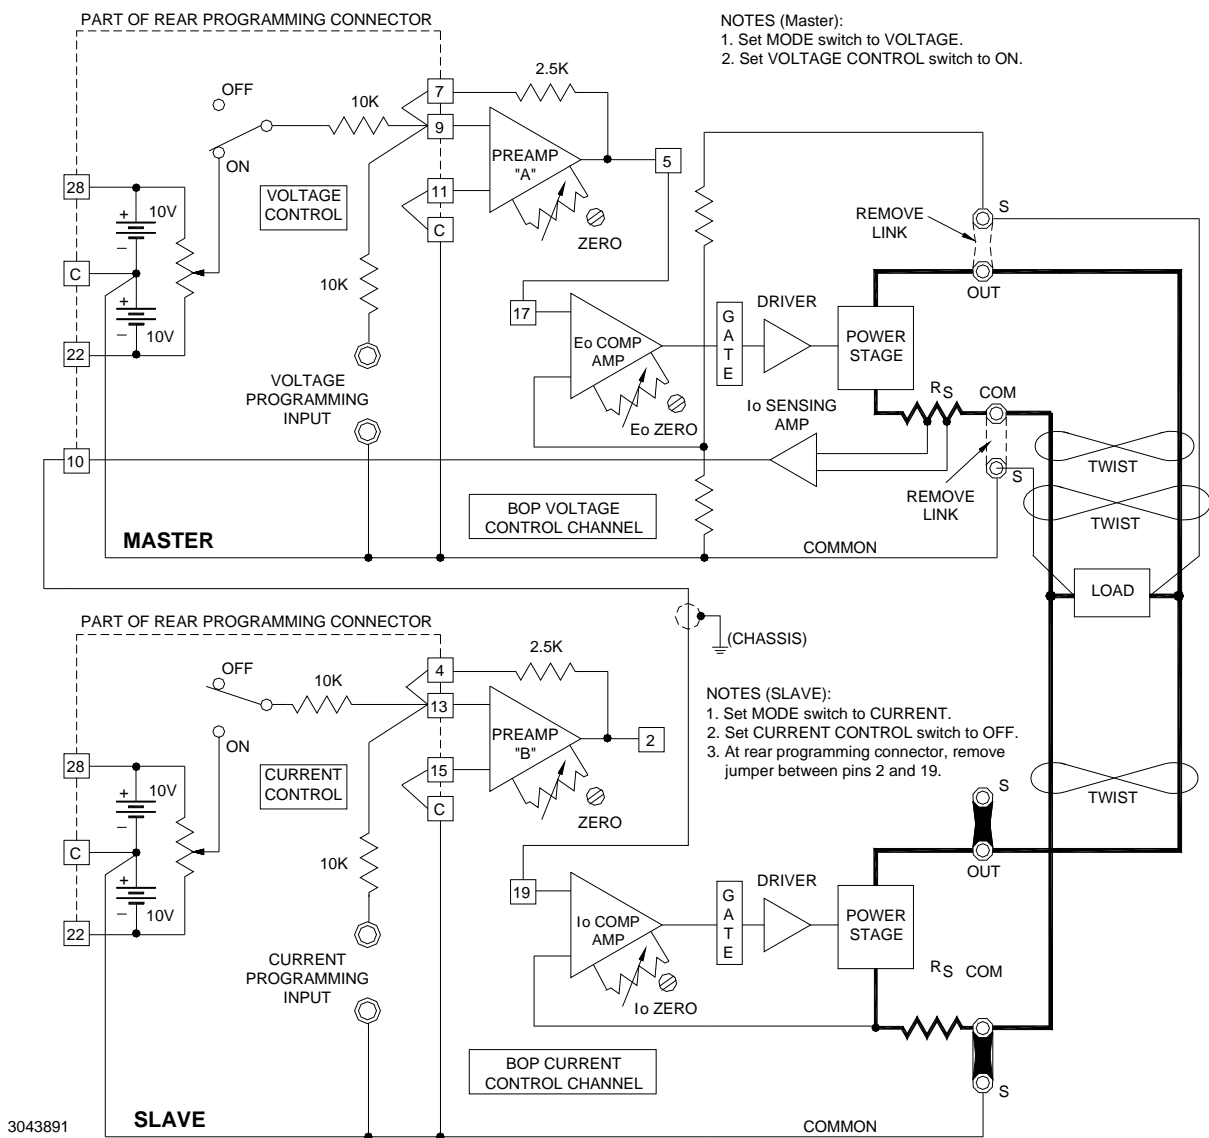
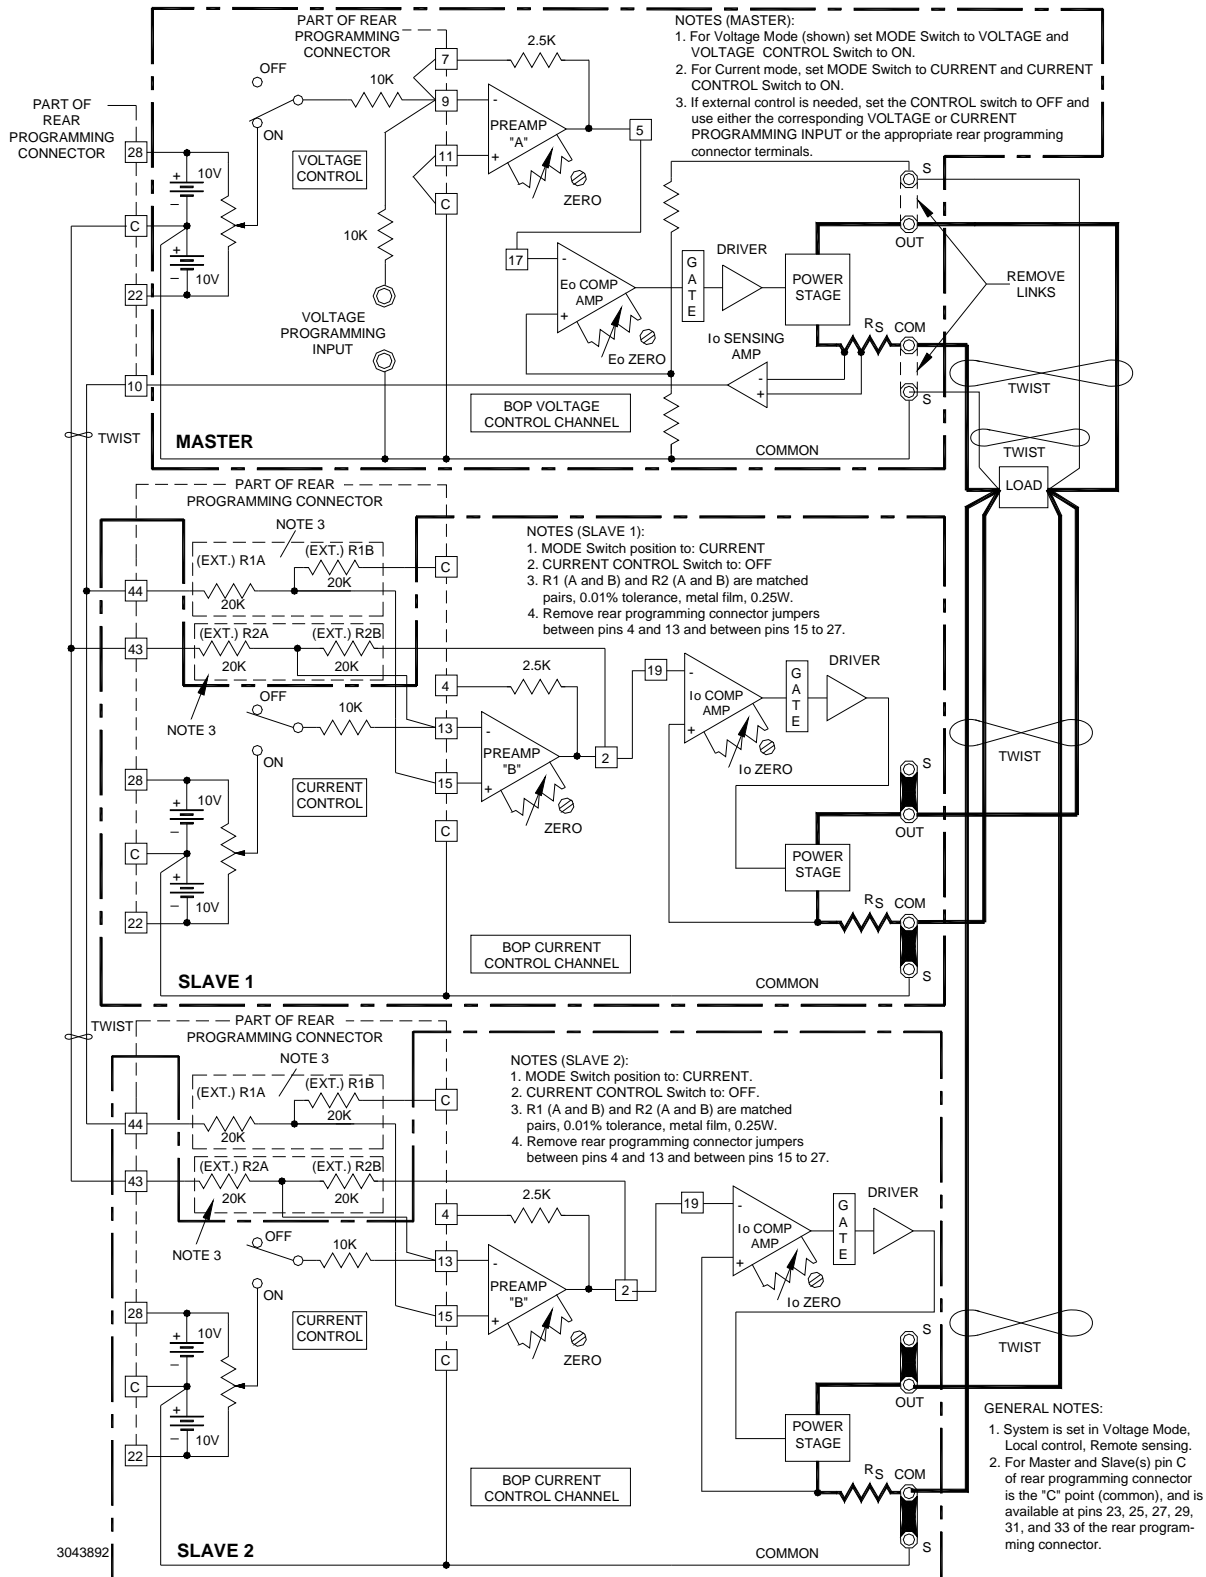

FIGURE 3-25. PARALLEL CONNECTION (MASTER/SLAVE) OF TWO BOP POWER SUPPLIES WITH REMOTE ERROR SENSING AT THE COMMON LOAD
FIGURE 3-26. ALTERNATIVE PARALLEL CONNECTION (MASTER/SLAVE) FOR GREATER PRECISION AND STABILITY OF TWO OR MORE BOP POWER SUPPLIES
Figure 3-25 shows a simple parallel master/slave connection of no more than two BOP power supplies. The configuration shown in Figure 3-26 is more stable and accurate than that shown in Figure 3-25 since it includes compensation that eliminates the parasitic voltage drop on the COM connections of the slaves. The slave's preamplifier B is configured as a differential amplifier for the master's output current monitoring signal. Figure 3-26 is recommended for more than two units in parallel or where greater precision and stability is desired.
1. Connect the BOP supplies as shown in Figure 3-25 or 3-26 (see above for details).
- a. Set the MODE switches and the VOLTAGE and CURRENT CONTROL switches as directed in the set-up diagram, Figure 3-25 or 3-26.
2. Following the set-up procedure as described above, turn BOP's on and commence operation. The system as shown in the set-up diagram, Figure 3-25 or 3-26, operates in the Voltage Mode, since the MASTER MODE switch is set to VOLTAGE. For operation in the current mode, set the MASTER MODE switch to CURRENT.